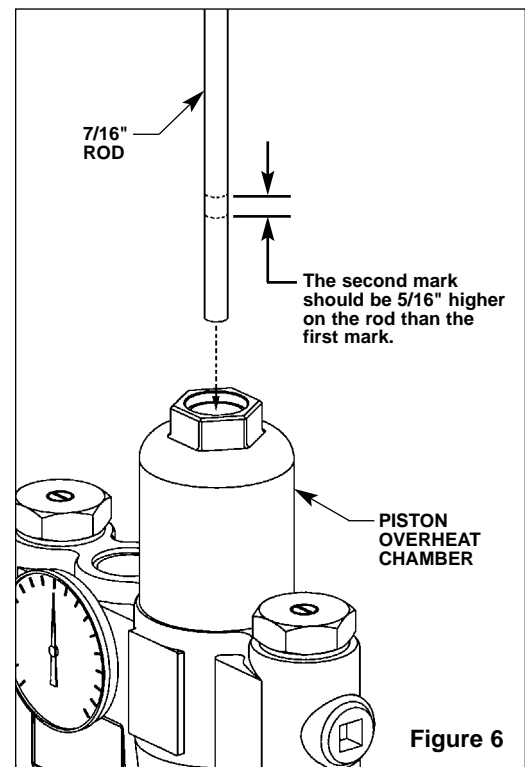

Figure 6
2. Insert a 7/16" dia. rod into the valve and into the piston overheating chamber. Mark the length of the rod inside the valve (see Figure 6).
3. Push the rod until the piston stops and mark the new length (the new length should be approximately 5/16" longer than the original length) (see Figure 6). If the length is not as it should be, the piston is not moving freely and needs to be cleaned along with the piston liner. Clean the piston and liner following the method outlined below: